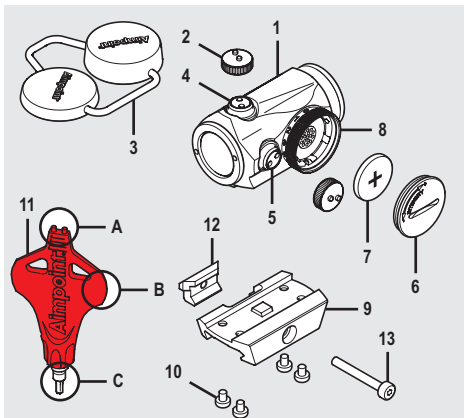

Fig. 1
- a Remove Battery cap (6) using the Tool (11B).
- b Insert Battery (7) with the positive end (+) toward Battery cap (6) as can be seen in Fig 1.